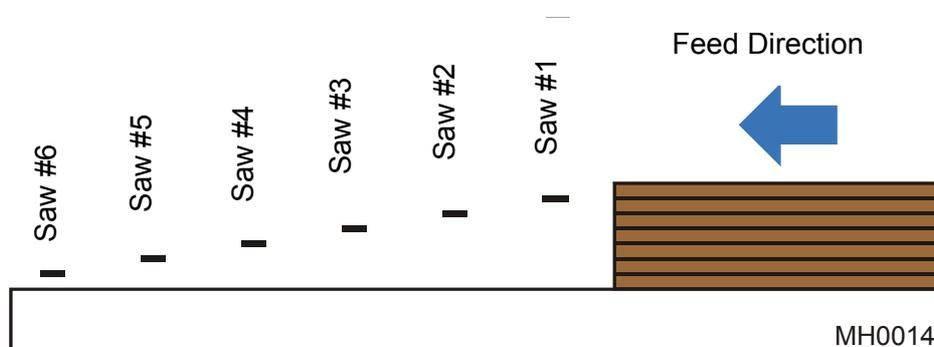

FIG. 2-14
**See Figure 2-14.** The sixth saw head (the last one the material will pass through) should be adjusted to 12.5 mm (0.5") above the feed track. The fifth head should be adjusted to 26.5 mm (1.04") above the track, the fourth head to 40.5 mm (1.6"), etc....